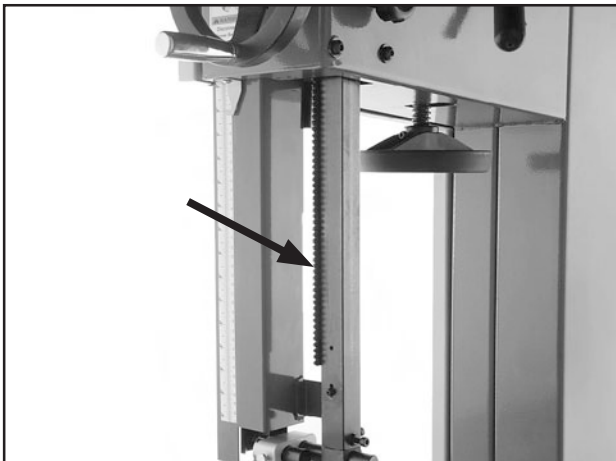

Figure 79. Example of rack lubrication location.
3. Using a rag and mineral spirits, wipe off any existing grease and sawdust buildup on the rack (see **Figure 79**).